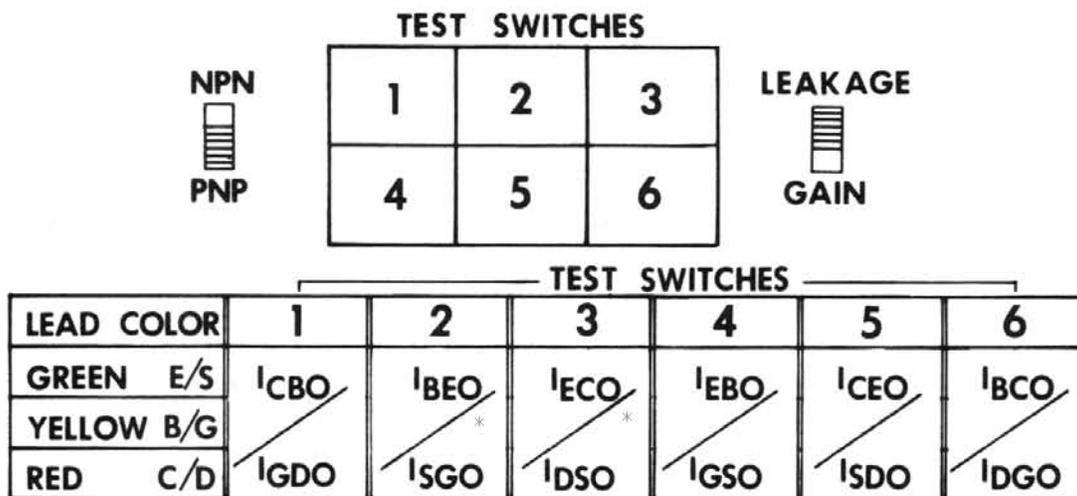

Fig. 6 Leakage Currents for Properly Connected Transistor
2. Refer to Fig. 6 and press the test button corresponding to the desired leakage test. Note that for regular transistors, buttons numbers 2 and 6 will produce a full scale leakage indication, corresponding to the conduction of the forward biased base-emitter and base-collector junctions respectively. Junction FET's will produce a full scale reading on buttons 2 and 6 corresponding to the forward conduction of the gate diode; and on buttons 3 and 5 corresponding to the current flow through the low resistance source-drain channel. MOS or IG FET's should only produce a full scale reading on buttons 3 and 5; corresponding to the current flow through the channel. Fig. 7 contains a table which establishes guidelines for limits of leakage currents to be expected on good devices.